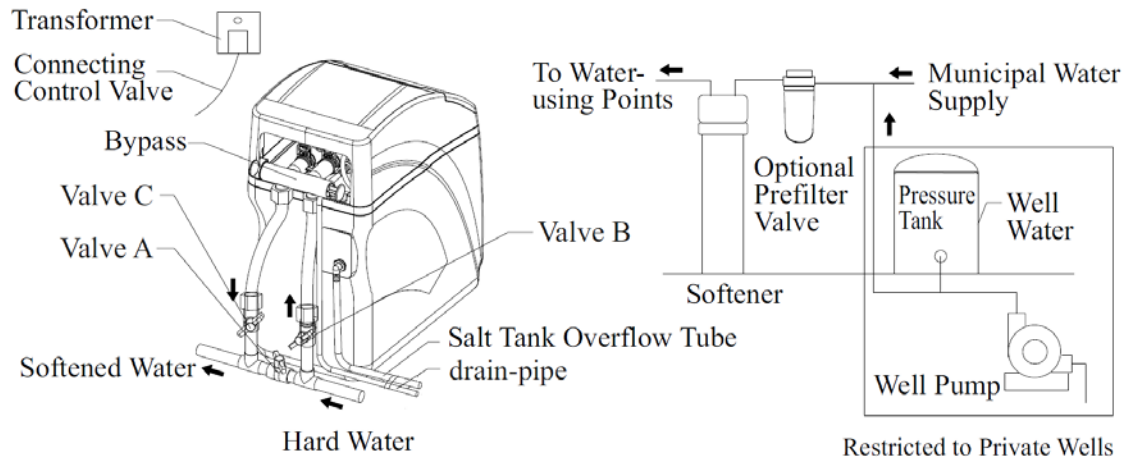

Figure 8.2 : Installation drawing for a K79 valve
Pipeline installation and connection should conform to the local installation rules. Inlet/outlet should be connected with the water pipe in the same axis (Refer to figure 8.2). The position of inlet and outlet shouldn't be reversed.
–It is suggested to install a manual bypass valve between the main water inlet and inlet/outlet of the device, making it convenient for installation and maintenance. (Refer to figure 8.2).